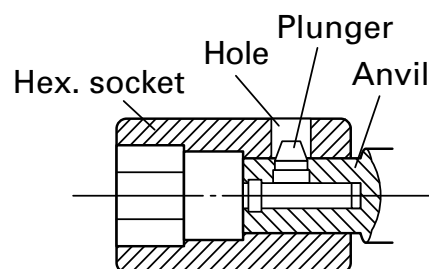

Fig. 3
(2) Plunger type (WH14, WH16) (Fig.3)